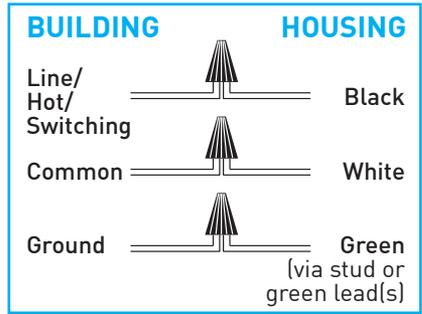

Fig.12
Splice compartment / power supply assembly provides three (3) wires for connection to the mains voltage: black, white and green (*Fig.12*).
Join structured building wires to corresponding housing wires with suitable “customer-supplied” wire connecting device (*Fig.12*).